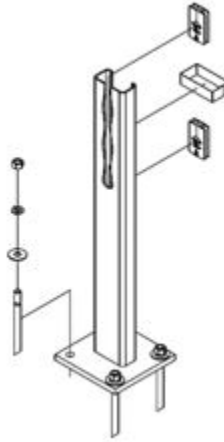

Figure 12
The base plated post (PN-33915A) must be placed on a concrete surface 6" [150 mm] or more in depth (See Figure 12). The post length varies per concrete elevation.
6. Place flat washer (PN-3300G) and lock washer (PN-3310G) between the hex nut (PN-3361G) and the plate (See Figure 12).
7. Tighten the nuts to a snug position with an appropriately sized wrench or socket and the lock washer is flat with a minimum of two (2) threads showing.